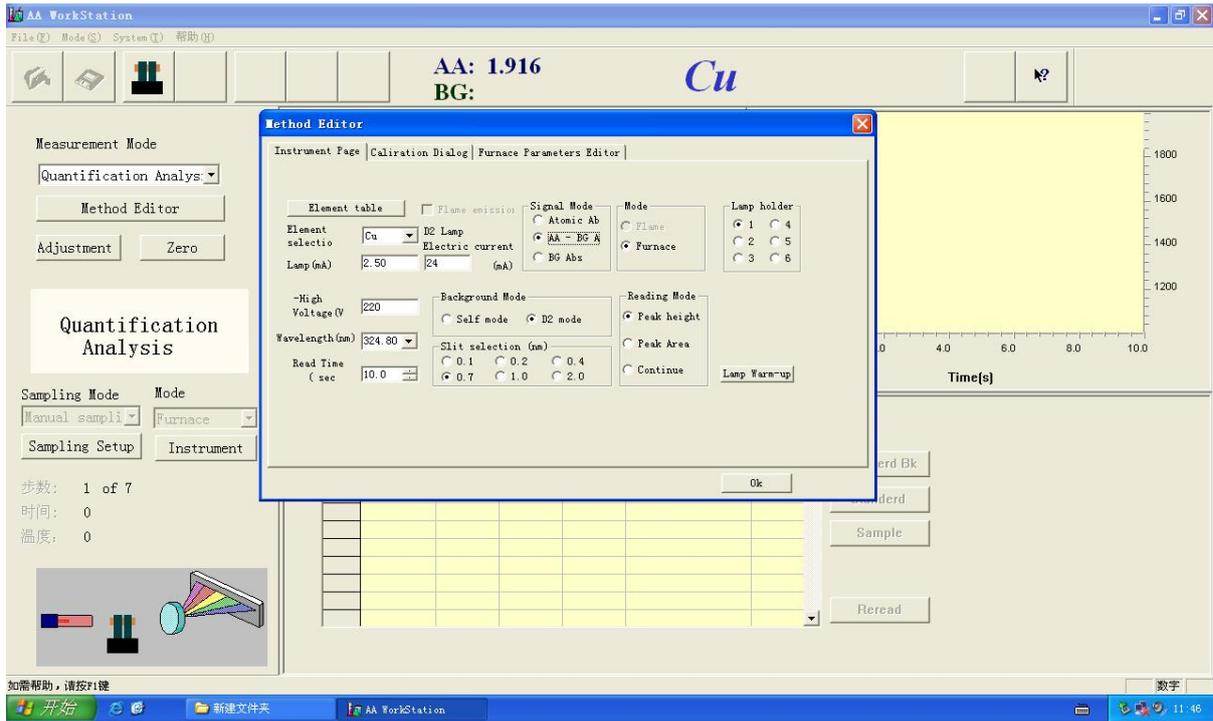

Figure 4-20
b. Select the "AA-BG AE" (as shown in Figure 4-20), "Background Mode" and "D2 Lamp Electric Current" are valid, the "Flame emission" is gray